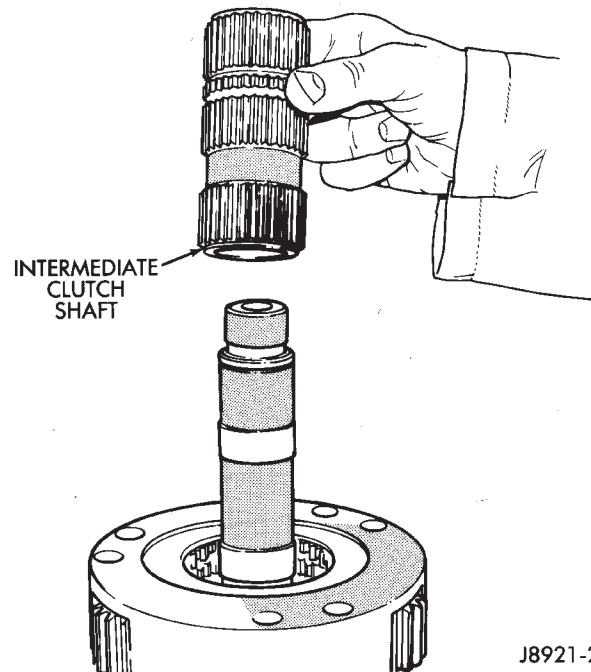

Fig. 29 Intermediate Clutch Shaft Removal
- (9) Remove intermediate clutch shaft (Fig. 29).